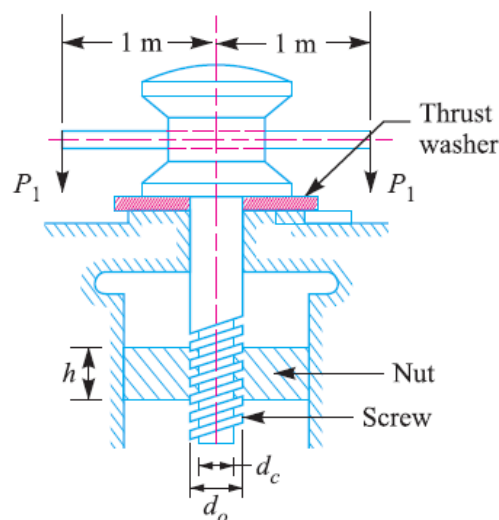

Figure 1
- Q2.** A sluice gate weighing 18 kN is raised and lowered by means of square threaded screws, as shown in Fig. 1. The frictional resistance induced by water pressure against the gate when it is in its lowest position is 4000 N. The outside diameter of the screw is 60 mm and pitch is 10 mm. The outside and inside diameter of washer is 150 mm and 50 mm respectively. The coefficient of friction between the screw and nut is 0.1 and for the washer and seat is 0.12. Find : (25 marks)